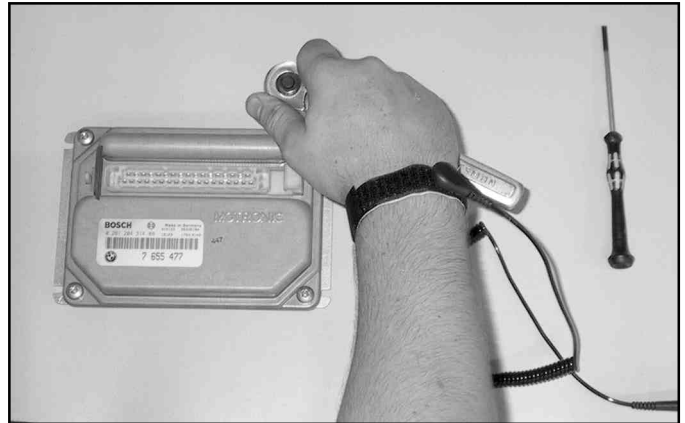

Figure 9
11. Remove the four "Tamper Resistant" Torx screws. **Figure 9.**